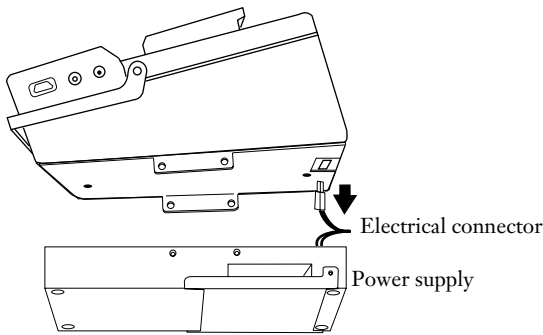

Figure 7
- c) Detach the power supply electrical plug from the receptacle on the bottom of the splicer (Figure 7).